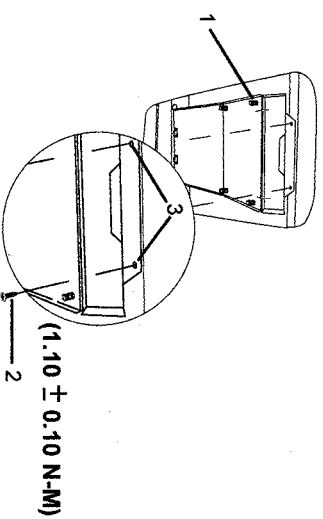

FIGURE 51
- 2.) WITH THE TOP DVD MOUNTING BRACKET TABS IN-PLACE, PUSH THE REAR SIDE OF THE BRACKET (1) UPWARD AND USE THE SUPPLIED TWO SELF-DRILLING SCREWS (2) TO SECURE THE BRACKET TO THE ROOF BOW (3). (SEE FIGURE 51)